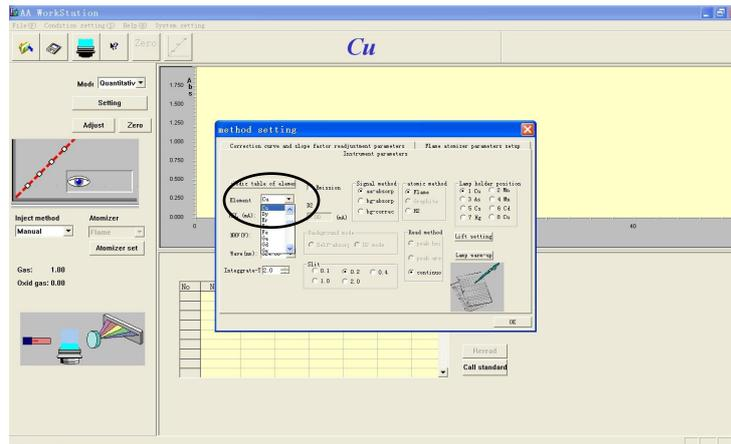

Figure 4-14
- The other method is moving the cursor to the "Element selection" pull-down list to select a element by clicking on it, as shown in Figure 4-14.